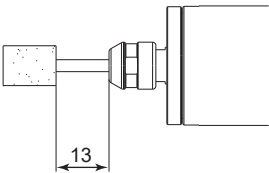

Fig. 20
- (1) The proper surface speed for general grindstones is 10-30m / s.
- (2) Do not exceed 13mm of overhang for mounted grindstones as shown in Fig. 20. If the overhang must exceed 13mm, reduce the motor speed in accordance with table 6.
- (3) Dress the grindstone prior to use.
- (4) Do not use cutting tools with bent or broken shanks, cracks or excessive run-out.
- (5) For grinding, the maximum depth of cut should not exceed 0.01mm radially or axially. Reciprocate the tool several times after each pass to eliminate tool pressure.
- (6) Always operate tools within the allowable recommended speed of the tools. Use of a tool outside of the allowable speed of the tools could cause damage to the spindle and injury to the operator.
- (7) Keep the tool shank and collet clean. If contaminants are left in the collet or collet nut, excessive run-out will cause damage to the tool and or spindle.
- (8) Do not strike or disassemble the motor spindle.
- (9) Please set the tools to minimize the overhang amount. 13mm is the maximum amount of overhang to maintain high accuracy and safety.